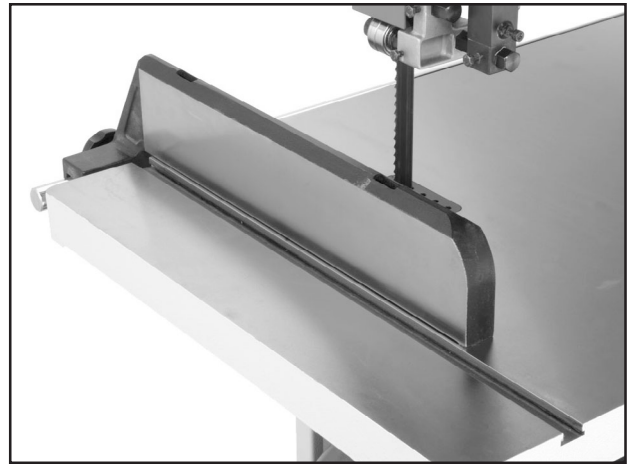

Figure 32. Example of fence square with miter slot.
5. Adjust the fence face parallel with the edge of the miter slot, as shown in **Figure 32**.